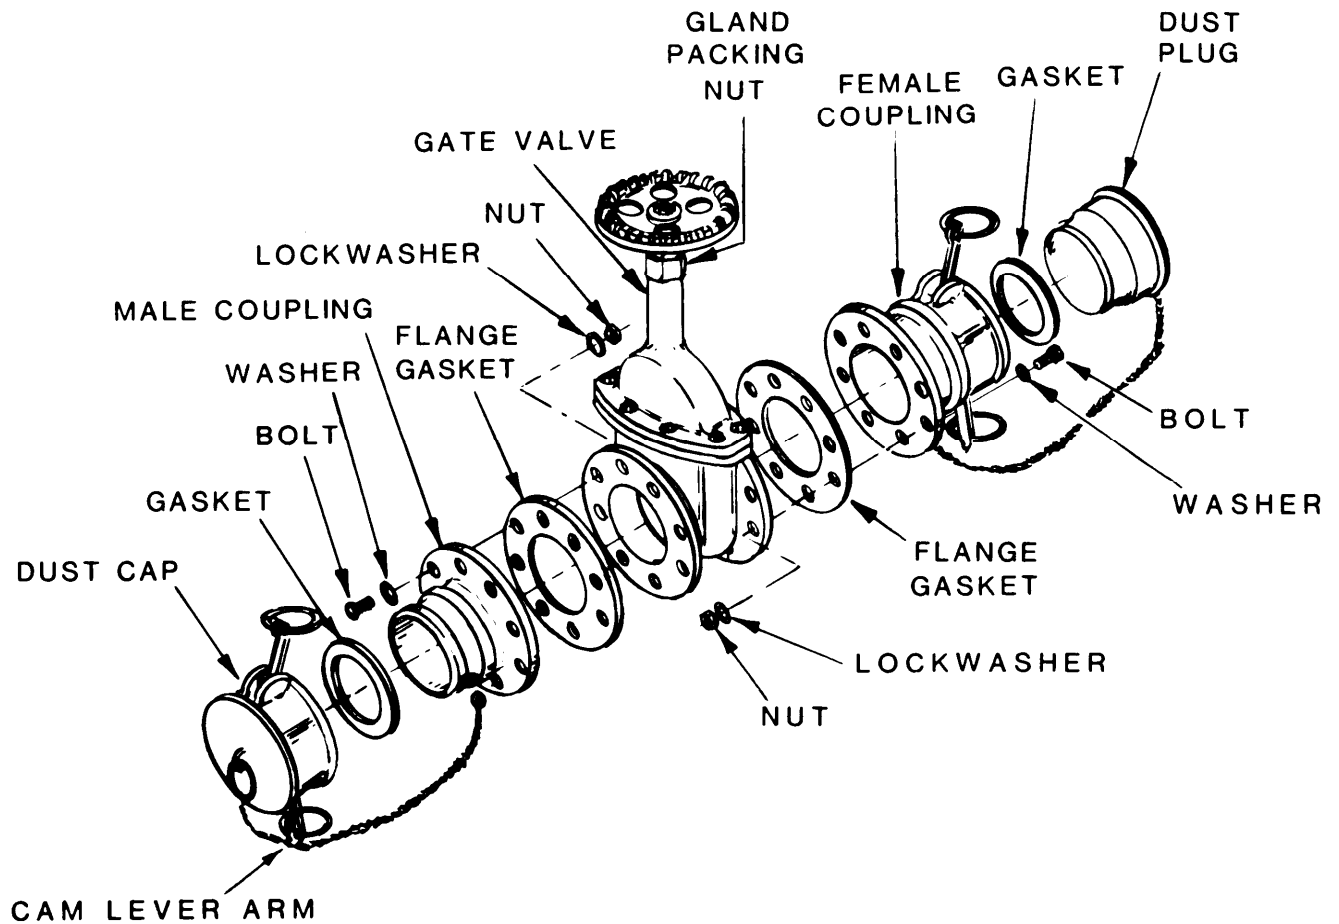
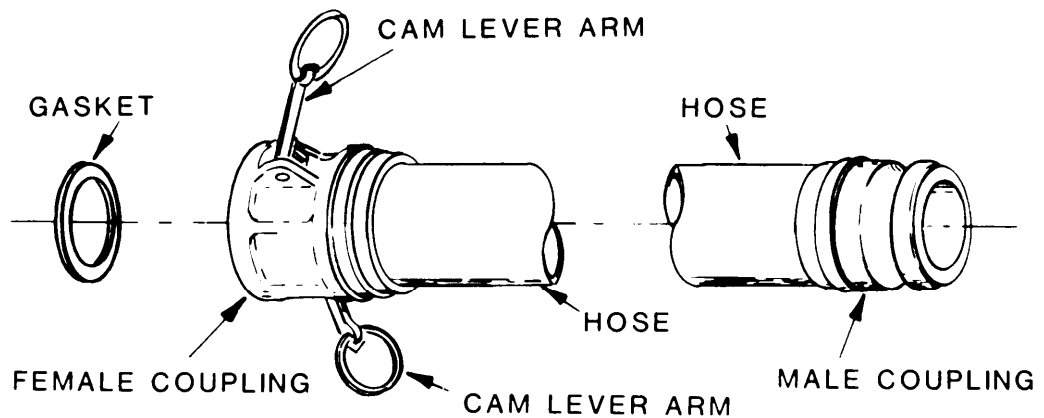

Figure 3-5. Three Inch Valve Assembly
Figure 3-6. Three Inch Hose Assembly
3-14. **THREE INCH VALVE ASSEMBLY (See Figure 3-5).**
- a. Disassembly of 3 Inch Hose Assembly (See Figure 3-6).
- (1) Disconnect hose from filler/discharge assembly by pulling coupling cam lever arms outward (See Figure 3-5).
- (2) Disconnect hose from valve assembly by pulling coupling cam lever arms outward.
- c. Reassembly of 3 Inch Hose Assembly (See Figure 3-6).
- (1) Clean filler/discharge assembly coupling.
- (2) Connect hose assembly to 4 to 3 inch reducer. Push in cam lever arms at same time.
- (3) Connect valve assembly to hose male coupling. Push in cam lever arms at same time.